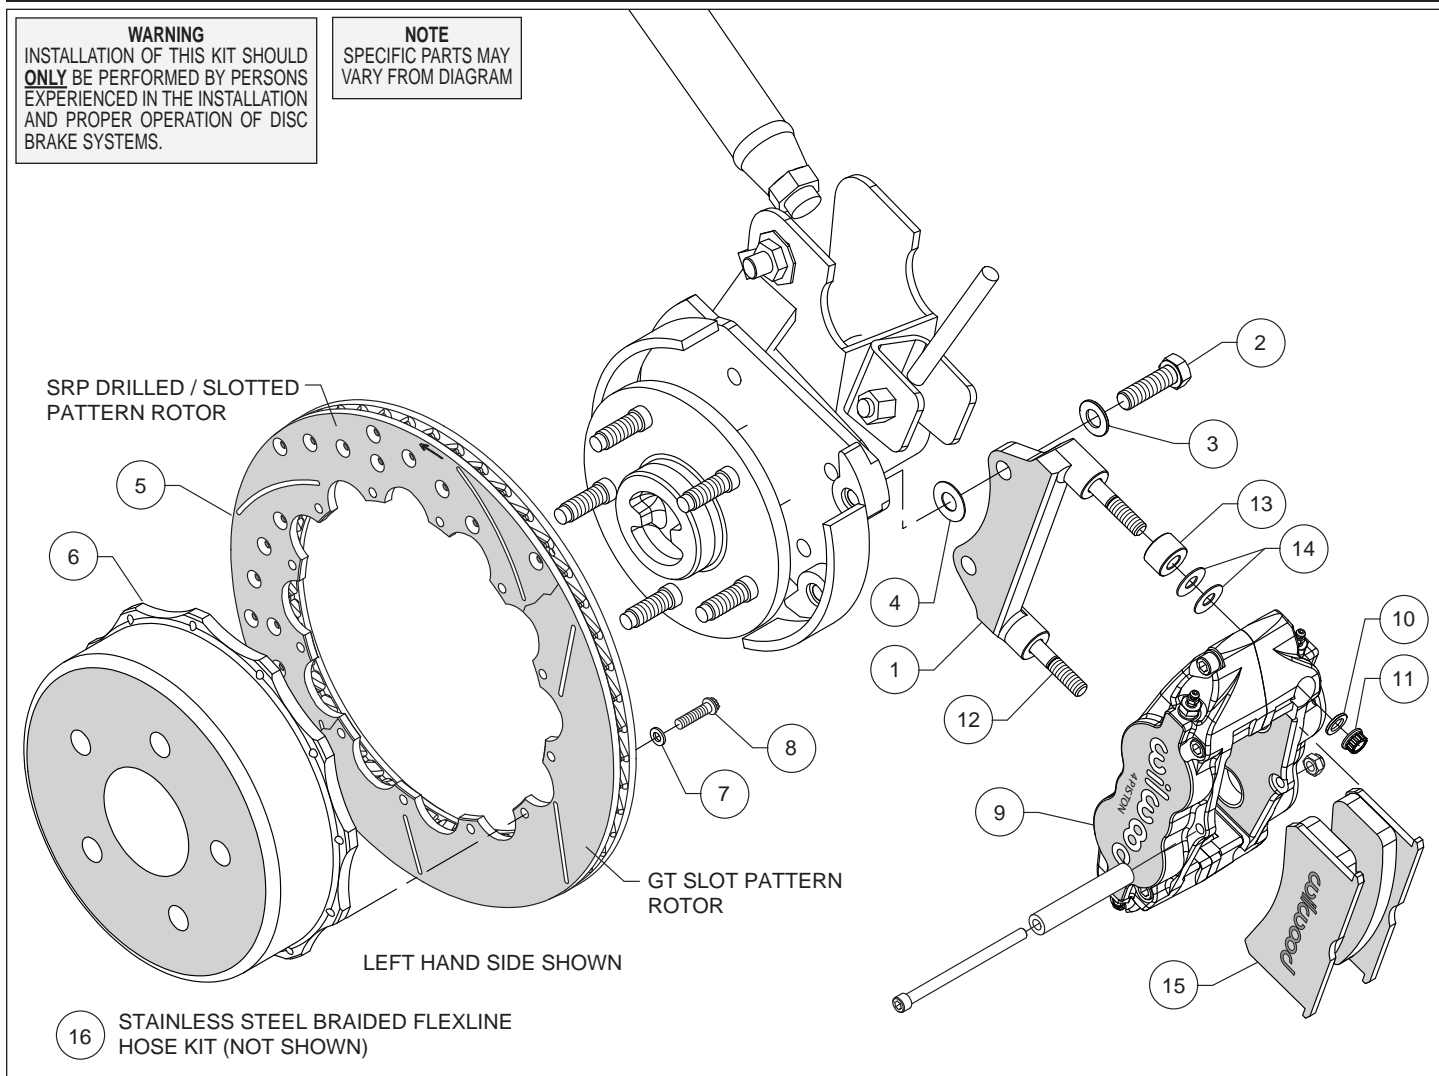
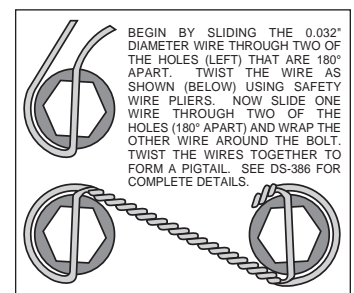

Figure 1. Typical Installation Configuration
Figure 3. Safety Wire Diagram
Assembly Instructions (numbers in parenthesis refer to the parts list and Figure 1 on the preceding pages):
- The caliper mount bracket (1) should initially be installed with clean, dry threads on the mounting bolts. Orient the bracket as shown in Figure 1, and install using mount bolts (2) and washers (3). Initially place one .033" thick shim (4) on each bolt between the bracket and upright, Figure 1. Temporarily tighten the mounting bolts. **NOTE:** The bracket must fit squarely against the mount bosses on the upright. Inspect for interference from casting irregularities, machining ridges, burrs, etc. Later, after the caliper alignment has been checked, the mount bolts will be secured using red *Loctite*® 271.
- Orient the rotor (5) and the hat (6) as shown in Figure 1 and Photo 2. Attach rotor to hat using bolts (8) and washers (7). Using an alternating sequence, apply red *Loctite*® 271 to the threads, and torque to 140 **in-lbs**. The bolts must be safety wired using standard 0.032 inch diameter stainless steel safety wire as shown in Figure 3. Please refer to Wilwood's data sheet DS-386 (available at www.wilwood.com/Pdf/DataSheets/ds386.pdf) for complete safety wire installation instructions.
- Lubricate the caliper mounting studs (12) with lightweight oil. Initially place one spacer (13) and two .035" thick shims (14) on each stud as shown in Figure 1 and Photo 4. Mount the caliper (9) onto the bracket (1) using lock nuts (11) and washers (10), Figure 1. Temporarily tighten the lock nuts and view the rotor through the top opening of the caliper. The rotor should be centered in the caliper, Photo 5. If not, adjust by adding or subtracting shims (4) between the bracket and the mounting bosses. Always use the same amount of shims on each of the two mounting bolts. Once the caliper alignment is correct, remove the bracket mounting bolts one at a time, apply red *Loctite*® 271 to the threads, and torque to 60 ft-lb.